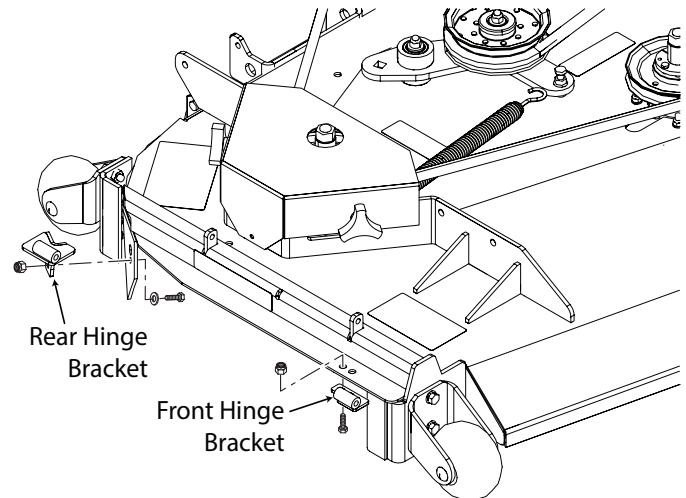

Figure 3-35. Hinge Weldment Installation
7. Install the rear hinge bracket to the cutter deck using one (1) 5/16-18 x 1" bolt, one (1) 5/16" flatwasher and one (1) 5/16-18 elastic stop nut. Do not tighten the hardware. See Figure 3-35.
16. Install the front hinge bracket to the cutter deck using two (2) 5/16-18 x 3/4" bolts and two (2) 5/16-18 elastic stop nuts. See Figure 3-35, Page 23. Do not tighten the hardware.